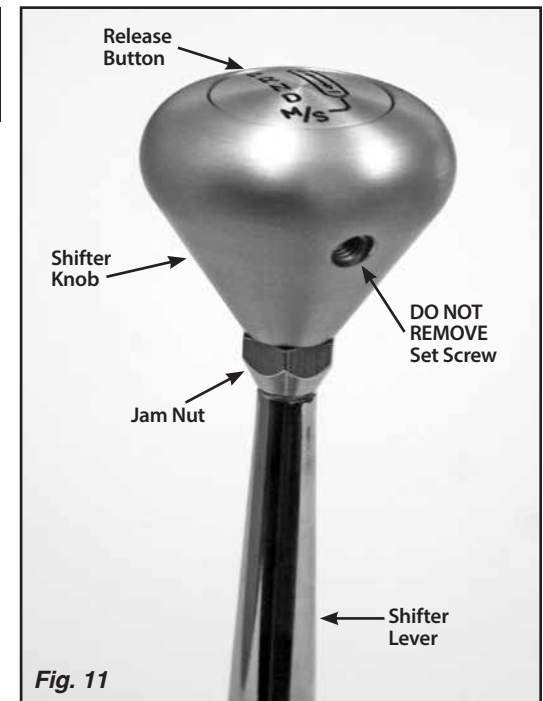

Fig. 11
- Step 2:** Loosen the jam nut below the shifter knob. **DO NOT** loosen or remove the set screw that is in the knob. **Fig. 11**